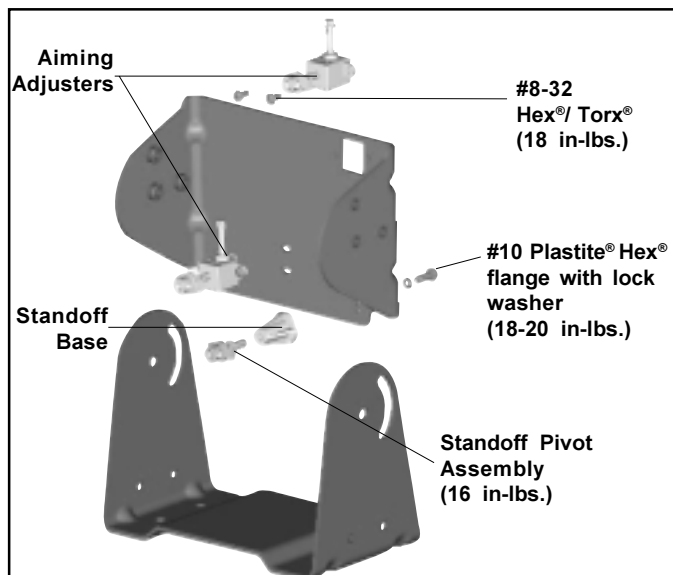

FIGURE 25 - AIMING ADJUSTER REPLACEMENT KIT COMPONENTS
4. Remove the #8-32 Hex®/Torx® screws from the damaged aiming adjuster(s). Refer to Figure 25.